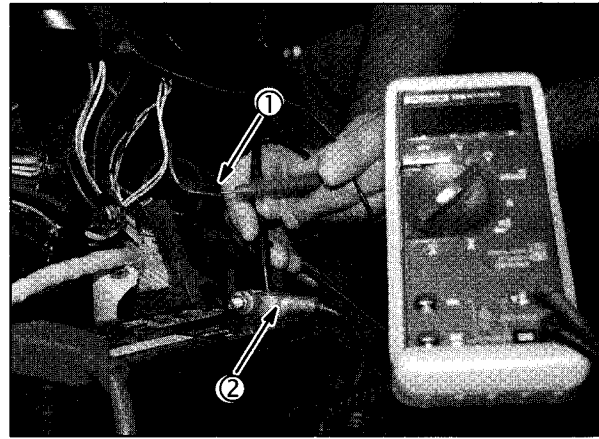

Fig. 36
3. Insert RED meter test lead into the brake interlock switch wire connector (1), **Fig. 36**.
4. Attach the BLACK meter test lead to the **NEGATIVE** battery terminal (2).